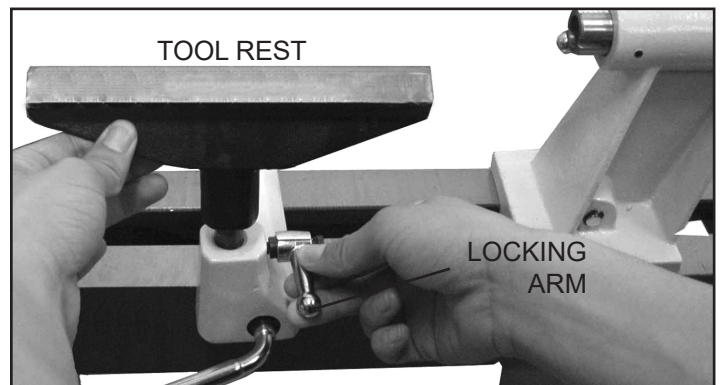

FIG. 4
2. Adjust the tool rest's height up or down to your desired position, and then secure it in place by tightening the locking arm. FIG. 4.